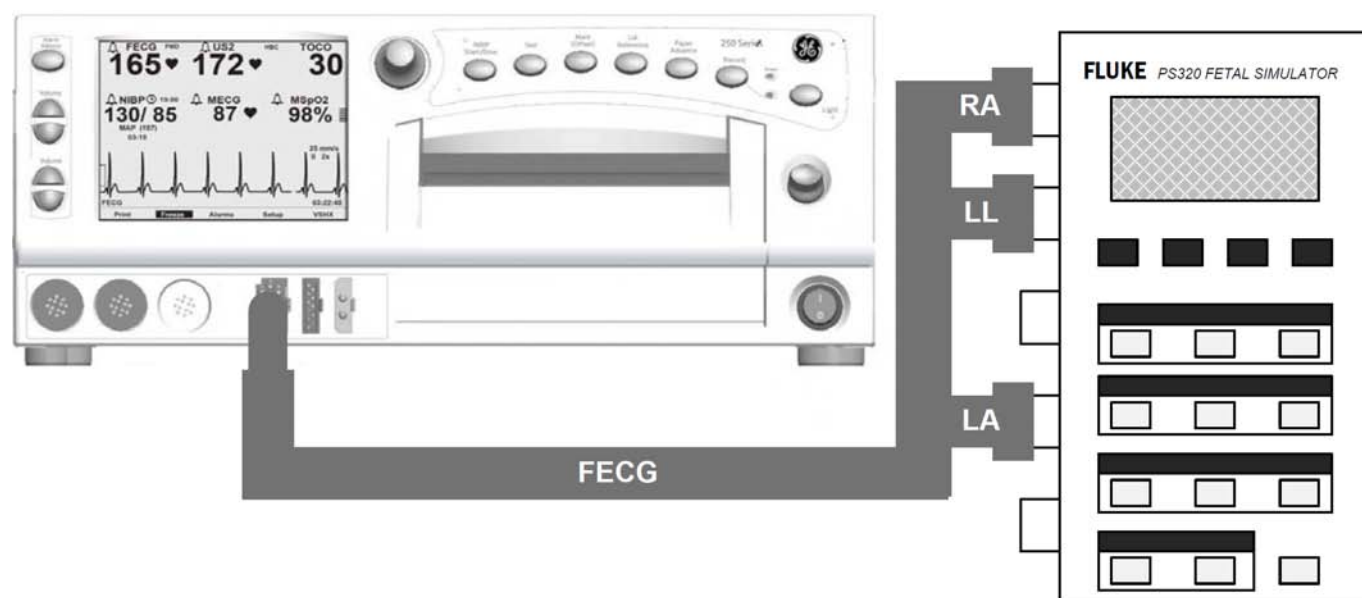

Figure D-1 PS320 Setup
1. Connect the ECG/US/TOCO simulation cables to their corresponding connectors on PS320 fetal simulator and Corometrics™ 250cx Series monitor unit as illustrated in Figure D-1.